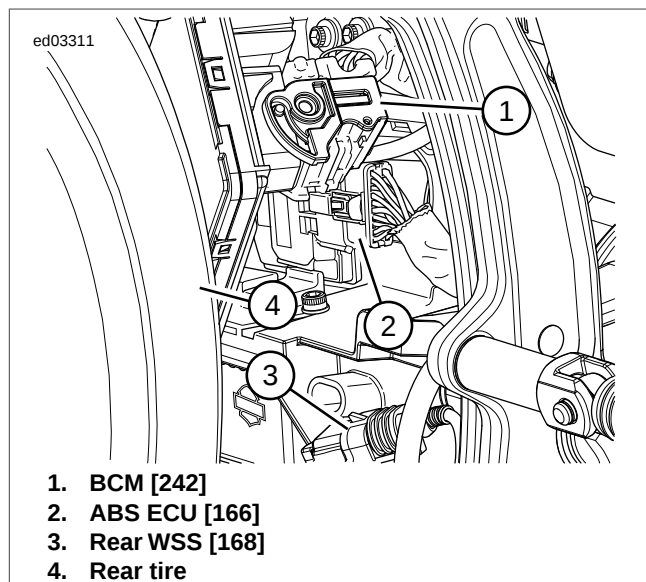
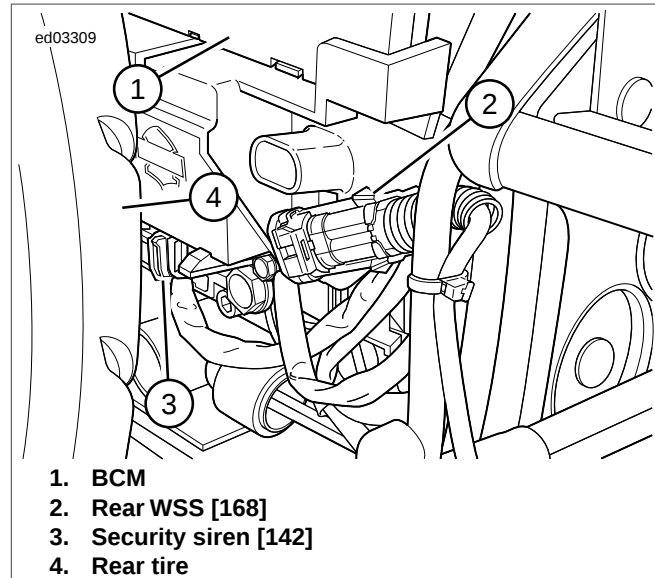
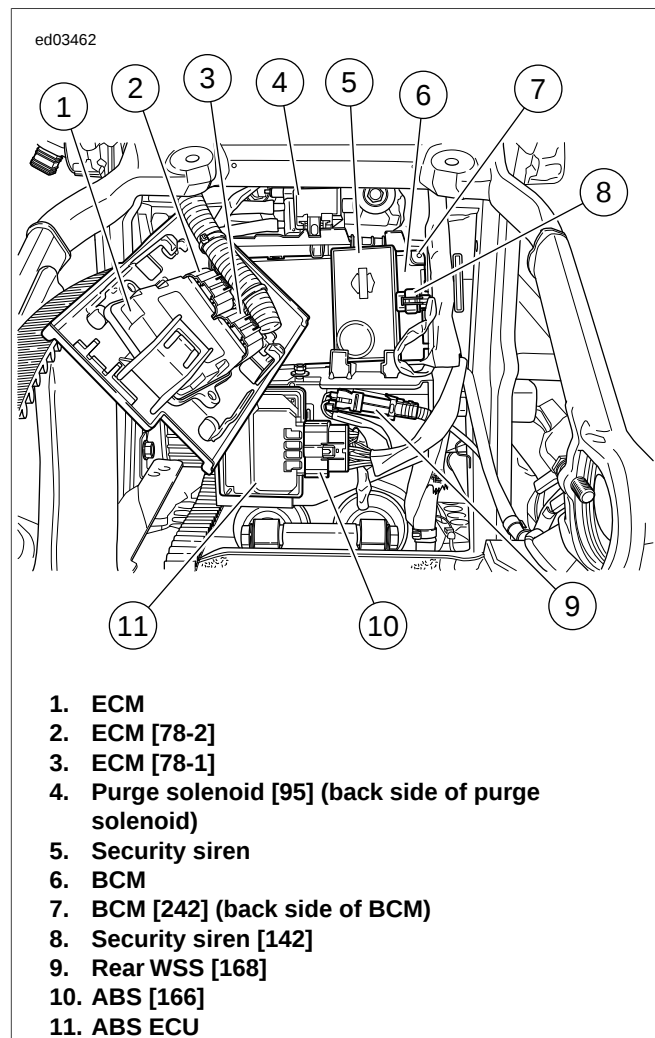

Figure 7-1. ABS [166]: Except FXSB
Figure 7-5. BCM: Except FXSB
Figure 7-6. Electrical Panel: FXSB
- See Figure 7-1 and Figure 7-6. The ABS ECU module.
- See Figure 7-5 and Figure 7-6. Rear WSS.